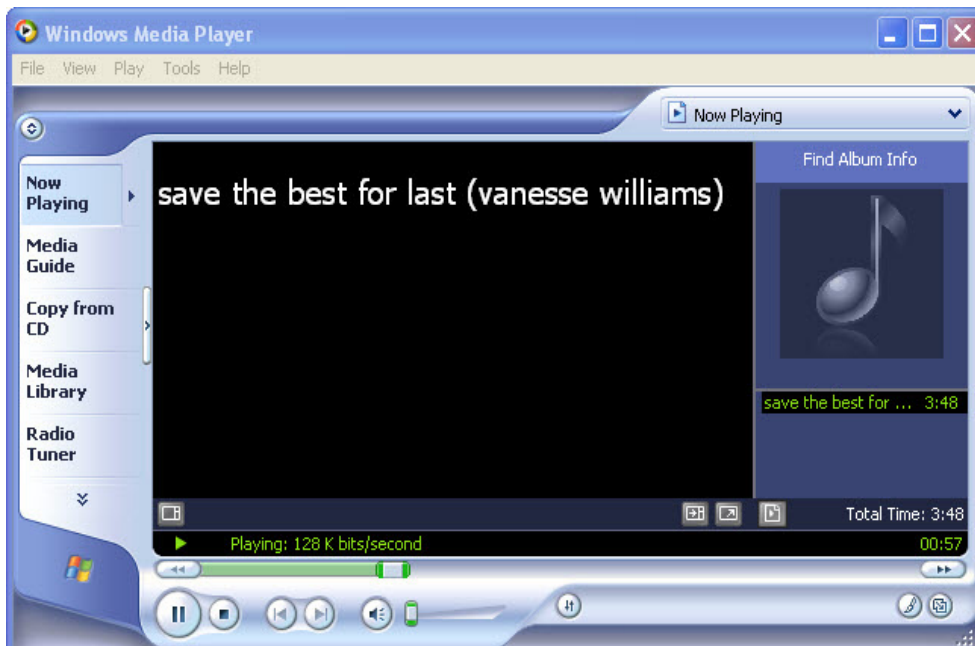

Figure L-15. Windows Media Player
- The window shown in the Figure L-15 appears. Select and play your favorite song, you can hear the song clearly.